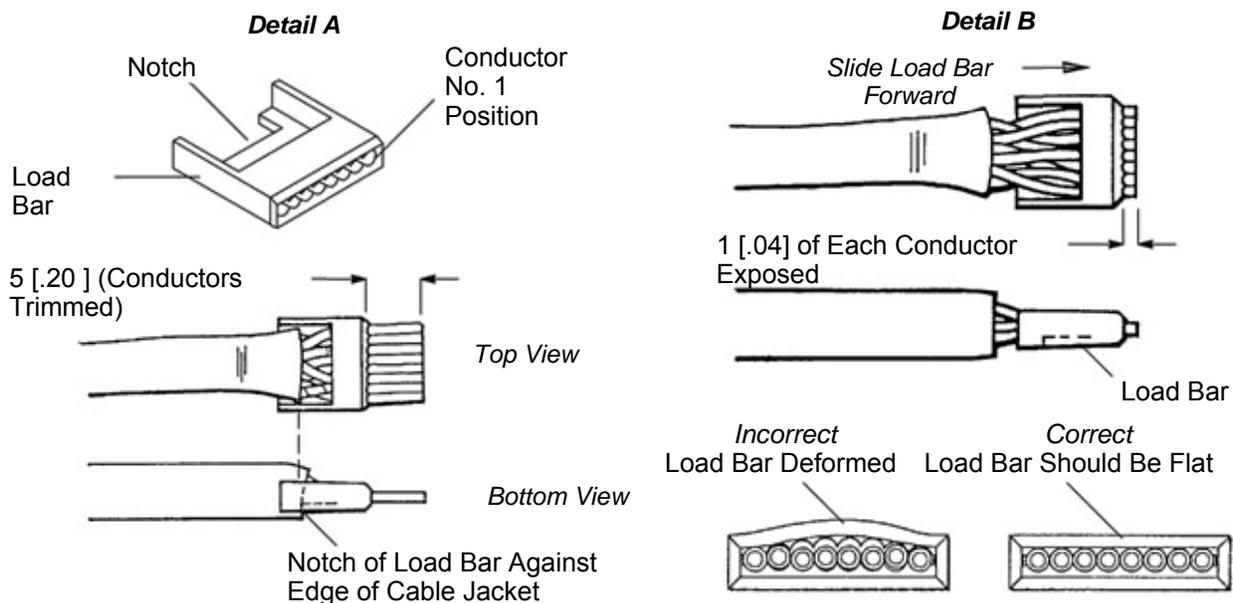

Figure 4
1. The conductors must be fully inserted into the load bar in the proper orientation. The floor of the load bar between the cable notch and conductor constraining area may be used to bring the 8-conductor tips into the same plane (this can be an aid for inserting the conductors into the load bar). The edge of the cable jacket should rest against the notch of the load bar. The conductors must be trimmed evenly and square to the front edge of the load bar so that approximately 5 [.20] of each conductor protrudes from the front of the load bar. Refer to *Figure 4, Detail A*.
2. The load bar must be slid toward the tips of the conductors so that approximately 1 [.04] of each conductor is exposed. The conductors must not extend too far into the load bar; otherwise, the load bar will twist and become deformed. Refer to *Figure 4, Detail B*.